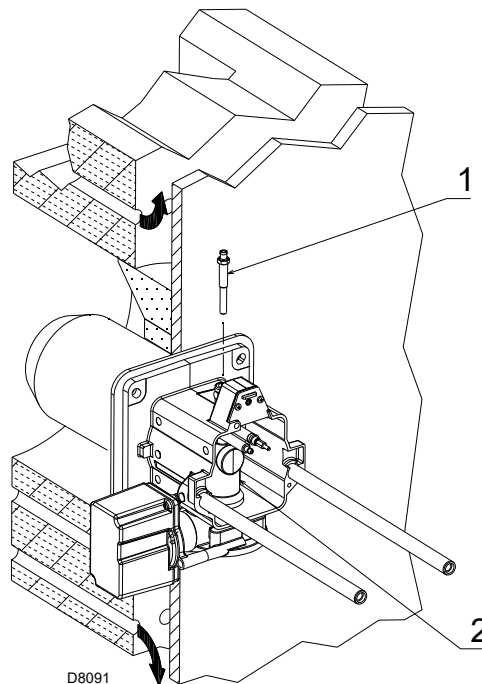

Fig. 15
- remove the screw 1)(Fig. 15)
- extract the inner part 2)(Fig. 15) of the head, and adjust them.
At this point of the installation, the combustion head is fixed to the boiler as shown in Fig. 15.